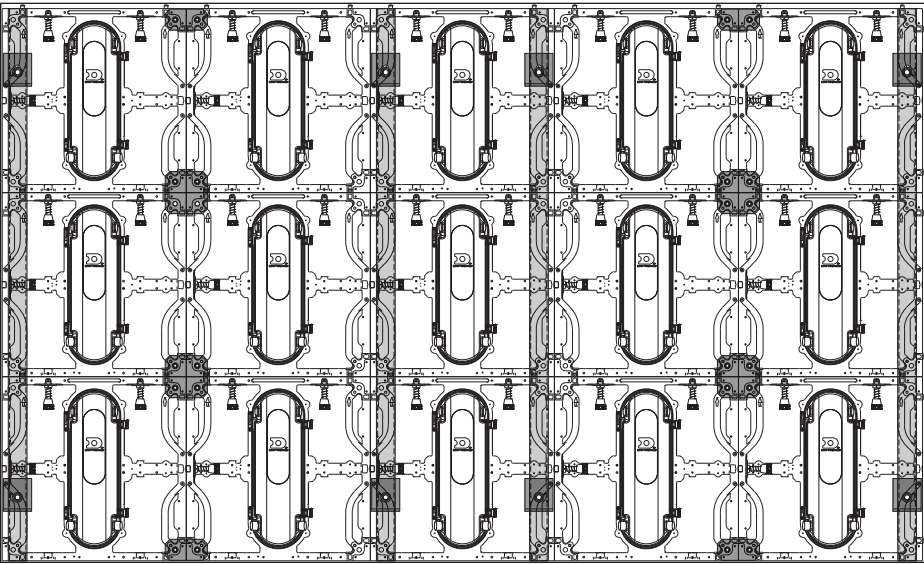
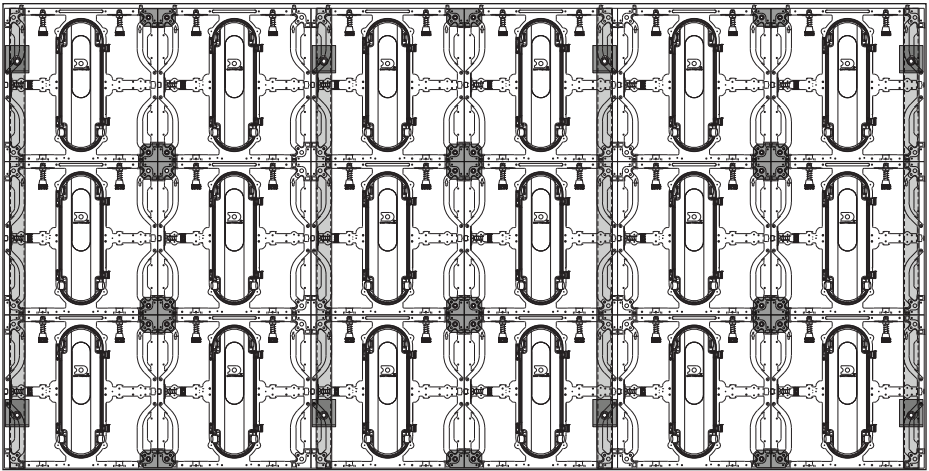

Figure 1: Single Panel Center Display
Figure 2: Dual Panel Center Display
- 2. Start the first panel/paired panels (with the modules removed) at the bottom-center of the display. The installation can start with either a single panel or two panels connected via the standard interconnect latch and spanning plate(s). Refer to **Figure 1** and **Figure 2**.